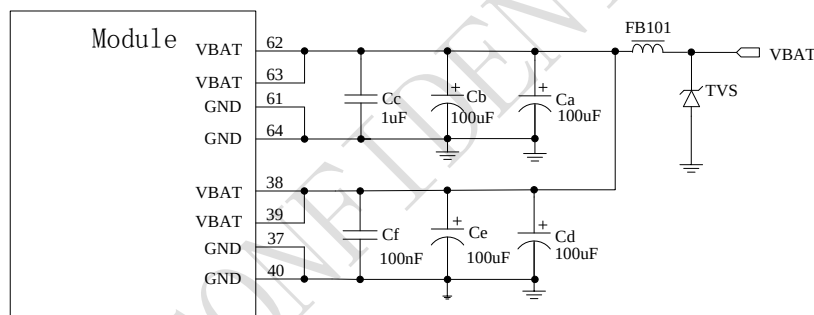

Figure 7: VBAT input reference circuit
***Note: test condition: Vbat power supply 3.8V, Cd = 100 μ f tantalum capacitance (ESR equal to 0.7 Ω), CF = 100nF. (Refer to figure 7 for circuit)**